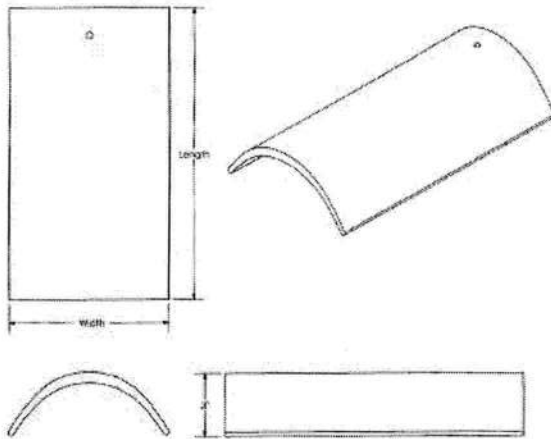

FIGURE 7—TWO-PIECE, HIGH PROFILE BARREL TILE
**3.2.6 Two-Piece, High Profile Barrel Tiles:** The Two-Piece, High Profile Barrel Tiles consist of pan and cover units having one nail hole at the top. Table 1 shows dimensions and installed weights. See Figures 7, 8 and 9 for additional details. The tiles are installed with a 3-inch (76 mm) headlap on roofs with a minimum slope of 5:12 (42%).